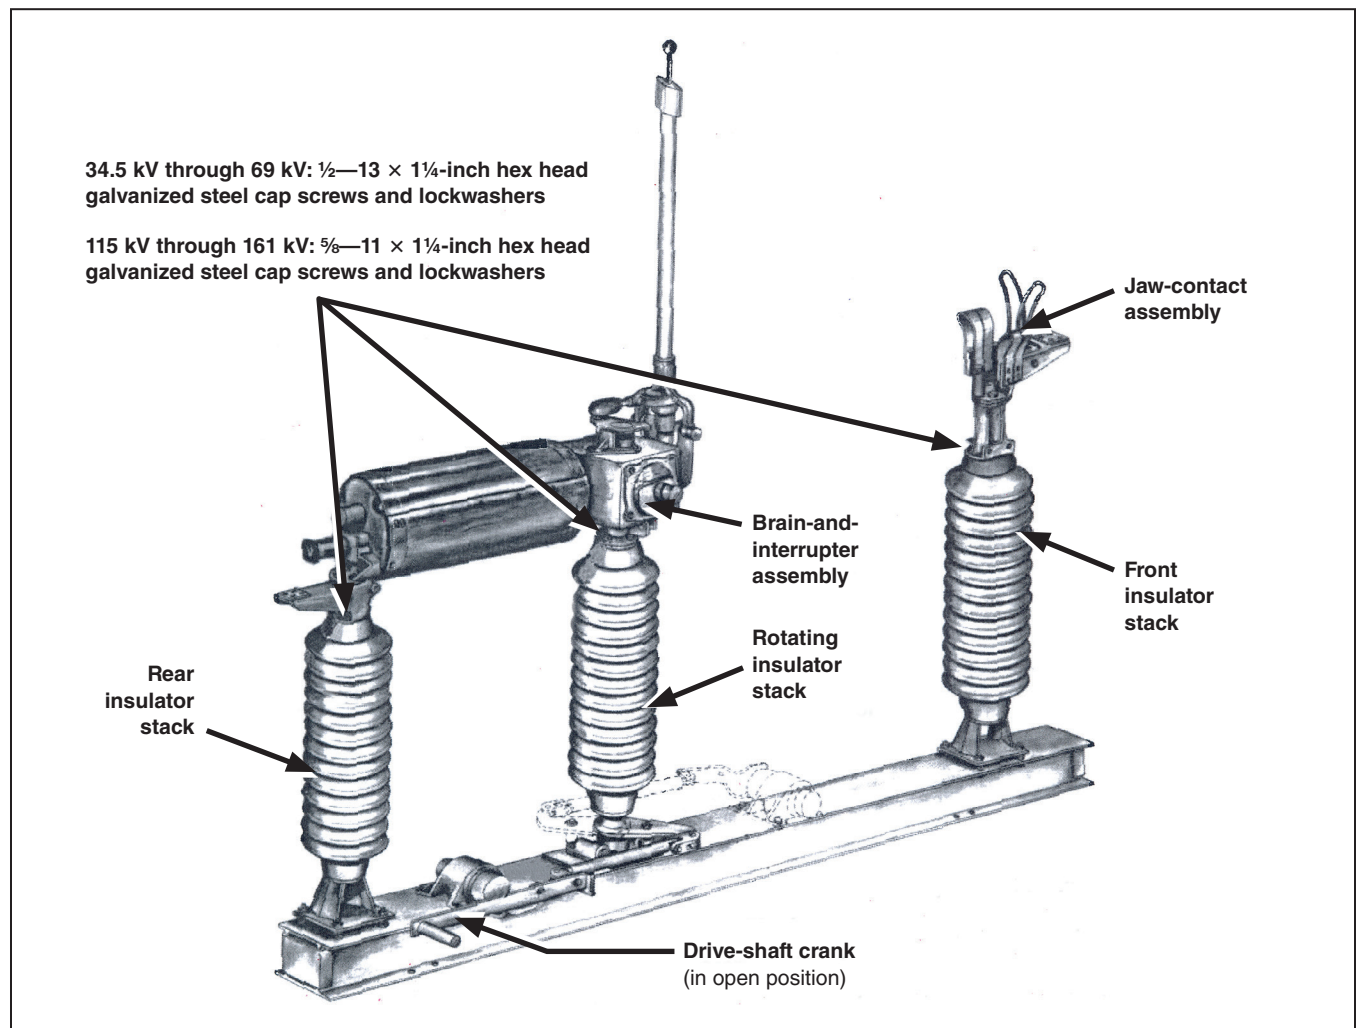

Figure 10. Brain-and-interrupter assembly and jaw-contact assembly mounted on insulator stacks.
- (b) Lift the brain-and-interrupter assembly into position on its respective insulator stacks, using the same handling care that was cautioned for its removal. See Figure 10. Be sure to place the brain-and-interrupter assembly on the same pole-unit from which it was removed.
the brain-and-interrupter assembly. If necessary, loosen the cap screws at the rotating-insulator support. Make sure the cap screws are the correct length. Screws longer than those specified may bottom in the mounting holes in the insulator caps without effectively tightening. See Figure 10. Then, torque to final tightness, in order, the interrupter cap screws at the terminal end, the cap screws at the top of the rotating-insulator stack, and finally, any rotating-insulator cap screws previously loosened.
STEP 13. Mount the jaw-contact assembly and terminal adapter as a unit on the front-insulator stack using the galvanized hardware specified in Figure 10 on page 15. Align the jaw-contact assembly with the blade by shifting the terminal adapter as required. (Optimal alignment of the jaw-contact assembly with the blade may require adjustment of the front-insulator-support leveling screw. This final adjustment should be made only after the pole-unit has been mounted in place and bolted to the pedestals or structure.)
STEP 4. While it is not critical, the normal blade opening is 90 degrees. It may be desirable from an appearance standpoint, for all three pole-unit blades to achieve an equal stance when in the fully **Open** position. If adjustment is required. Loosen the ball-joint shaft locking nut. Turn the shaft (which is an eccentric) to achieve a satisfactory blade position. See Figure 10 on page 15. Retighten the locking nut. Note it is not necessary to loosen the socket-head screw (in the blade crank-arm) to make this adjustment. It is not a lock screw.